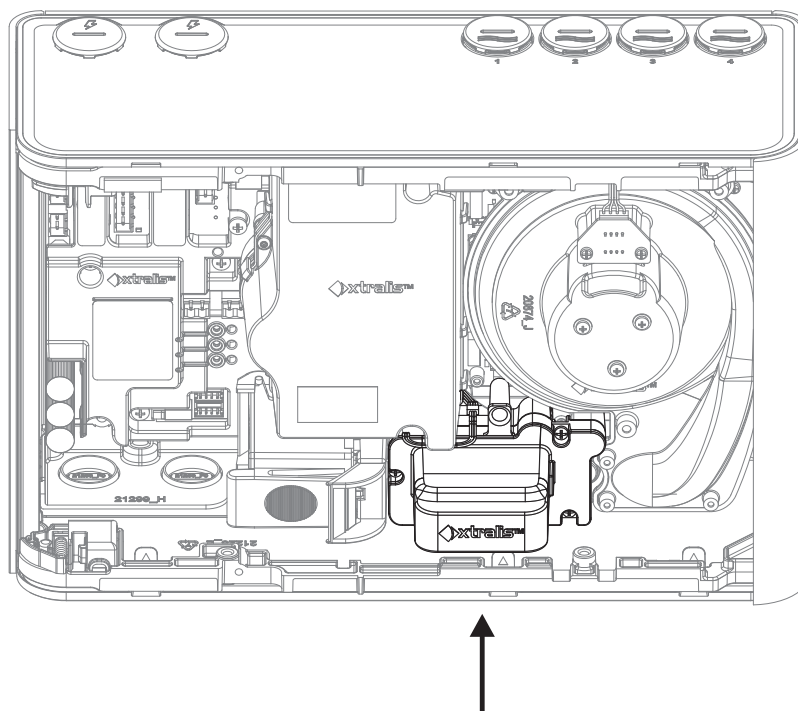

Figure 7-23: Reinstall Sampling Module
1. Firmly press the Sampling Module into the detector in the direction of the arrow shown so that the rubber seal on the Sampling Module is seated on the pipes in the detector (Figure 7-23). You will feel the module slide onto the pipes.